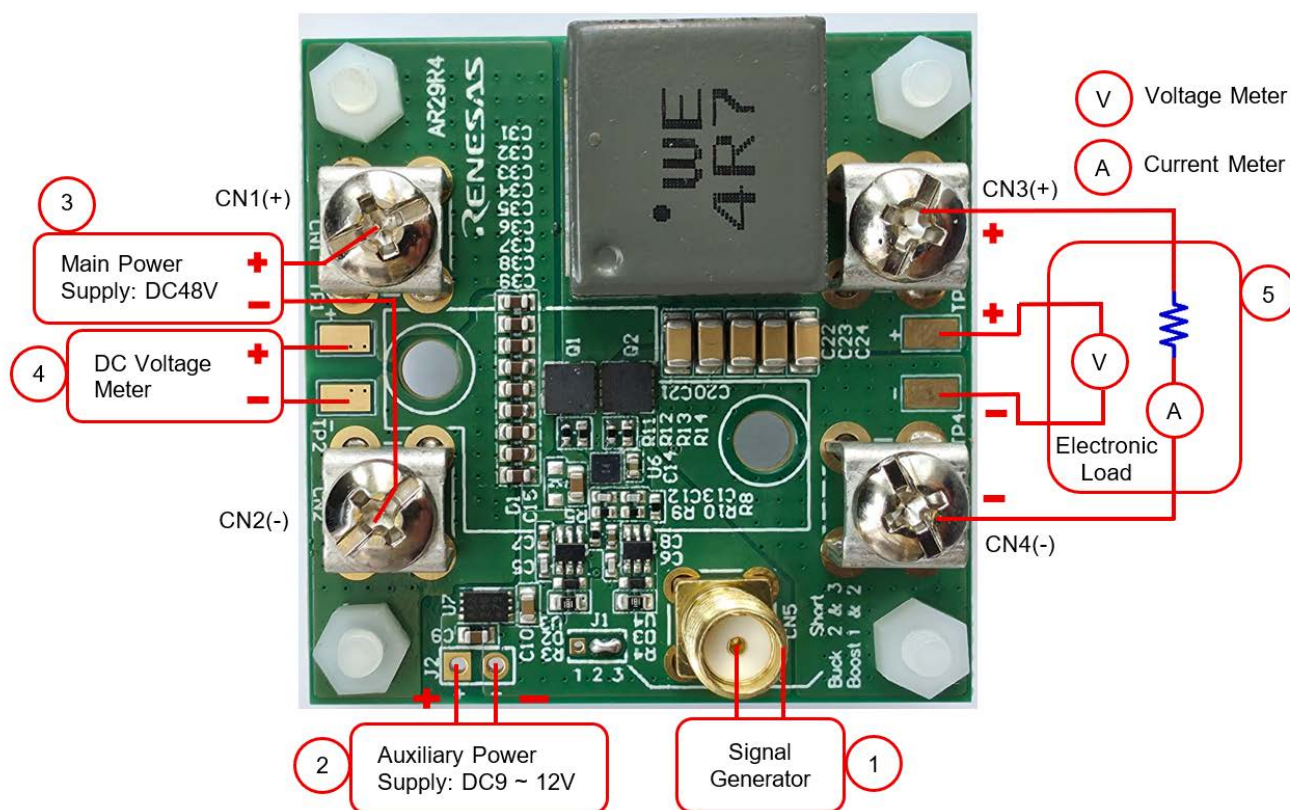

Figure 13. Setup Key
2. Connect a signal generator to SMA-KE connector CN5 as shown in item 1 of Figure 13.
3. Connect a DC9~12V power supply with a current limit of 0.5A to terminal J2 as shown in item 2.
4. Connect a DC48V power supply with a current limit of 7A to connectors CN1(+) and CN2(-) as shown in item 3.
5. Connect a DC voltage meter to TP1(+) and TP2(-) to measure input voltage as shown in item 4.
6. Connect an electronic load to connectors CN3(+) and CN4(-) for output load current measurement and TP3(+) and TP4(-) for output voltage measurement as shown in item 5.